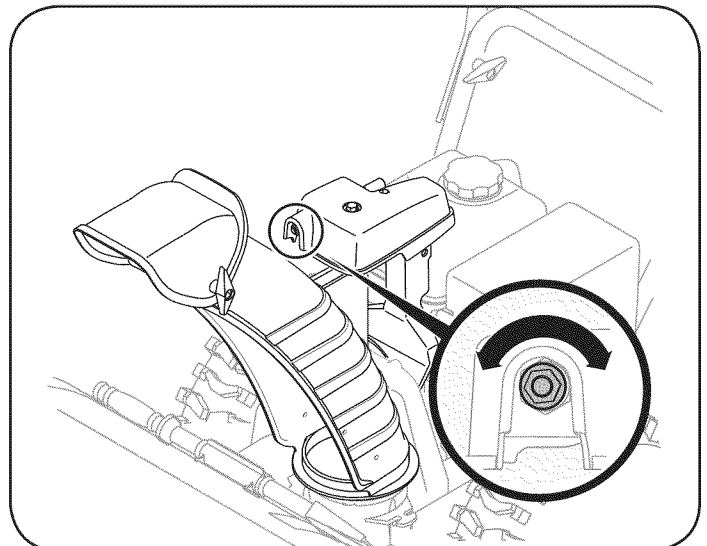

Figure 23
1. To increase the preload, tighten the hex nut clockwise in $\frac{1}{4}$ turn intervals. See Figure 23.